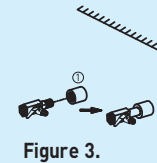

Figure 3.
2. Connect the 3-way connector to the raw water supply (marked as no. 1) as shown in the figure 3. The 3-way connector is fit in line with the raw water supply.